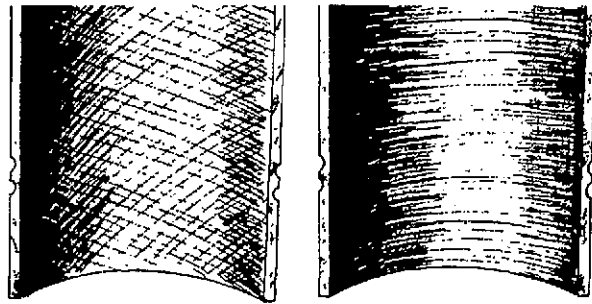

FIGURE 19. CROSSHATCHING
- Use a slow speed drill to drive the deglazing tool. Move deglazing tool up and down in cylinder (10 to 12 complete strokes) rapidly enough to obtain a crosshatch pattern (Figure 19).